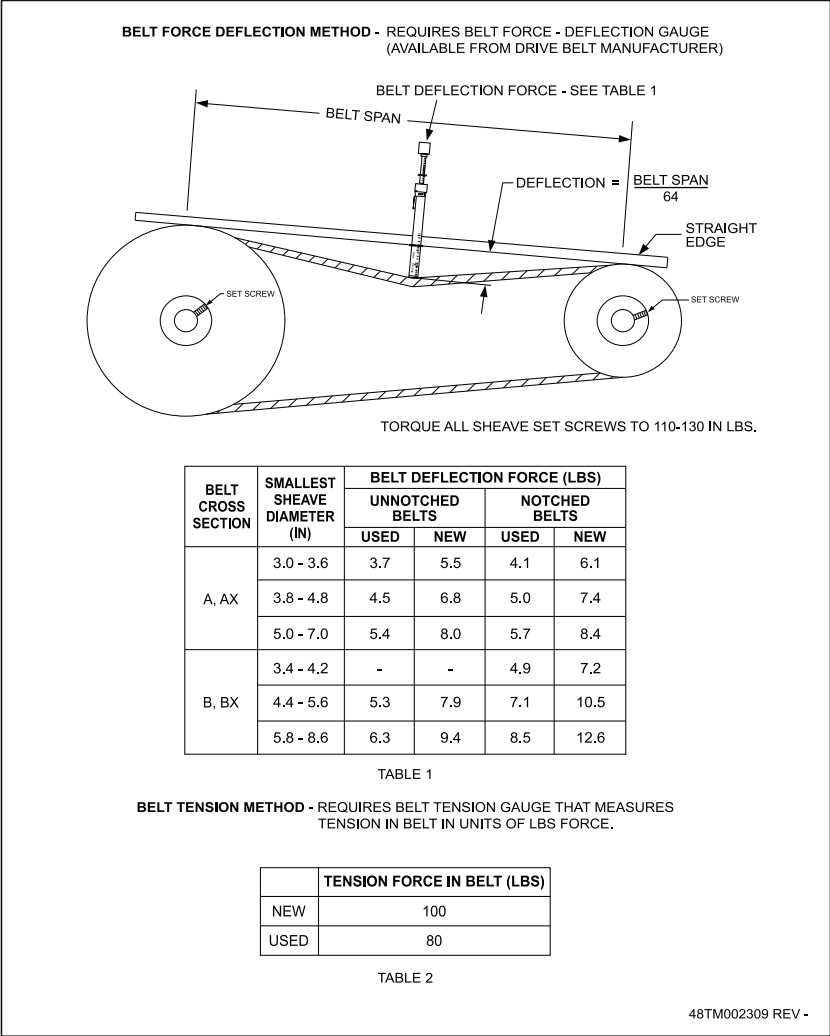

Fig. 44 — V-Belt Force Label
Measure the belt span length as shown in Fig. 44. Calculate the required deflection by multiplying the belt span length by $\frac{1}{64}$. For example, if the belt span length is 32 inches:
2. Set the tension gauge to the desired tension (see Table 1 in Fig. 44). Place the large O-ring at that point.